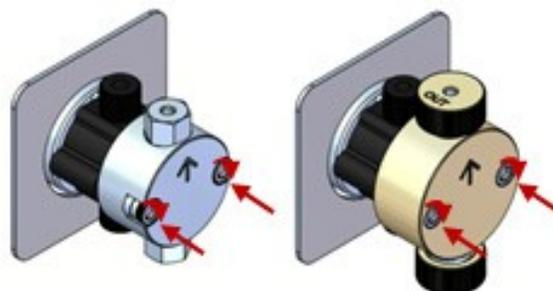

Figure 14: Reinstalling the fasteners
- Reinstall fasteners. As you tighten, alternate side-to-side until snug. Turn 1 flat past snug using a $\frac{3}{16}$ " hex key (Figure 14).